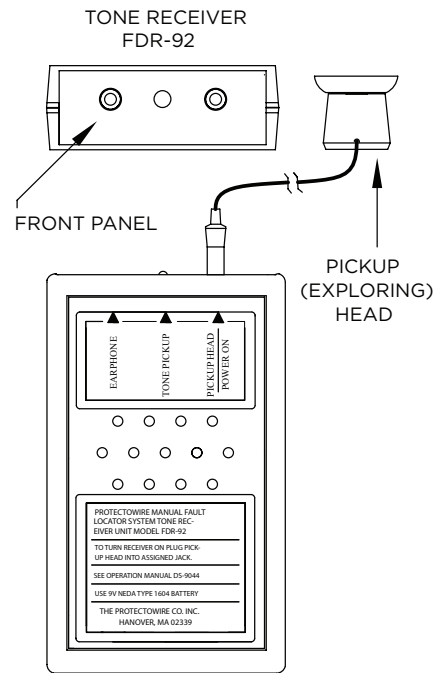

FIGURE 1
The Protectowire Manual Fault Locator System MFL-92 is comprised of two (2) modular units. A Tone Generator Model FDG-92 and a Tone Receiver Model FDR-92. (See figures 1 & 2)